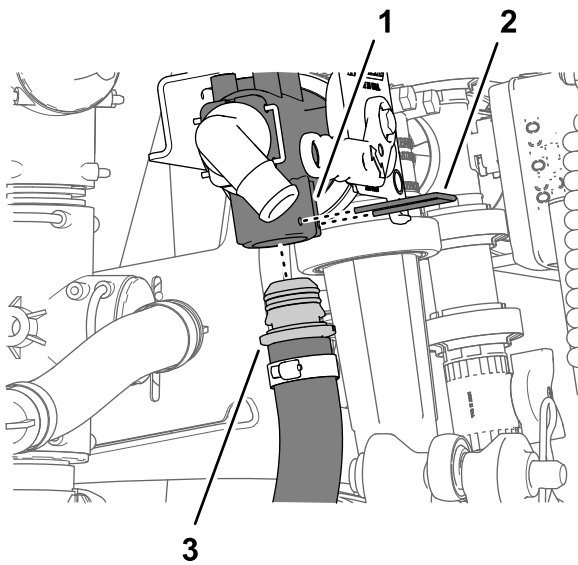

Figure 226
3. Align the other 90° fitting of the pressure-hose assembly (Toro Part No. 131-9648) with the open port of the T-fitting at the sprayer pump and insert the 90° fitting until it seats in the T-fitting (Figure 226).
4. Align the straight-barbed fitting of the pressure-hose assembly (Toro Part No. 131-9648) with the bottom port of the fluid-shutoff valve and insert the straight fitting until it seats in the valve (Figure 226).